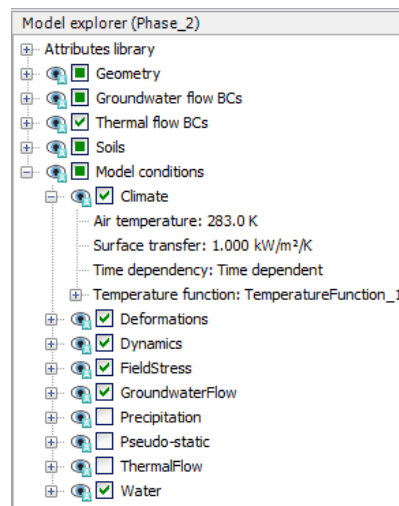

Figure 237: Model conditions for Phase_2
8. Expand the subtree **Model conditions** in the **Model explorer** shown in Figure 237 (on page 266).